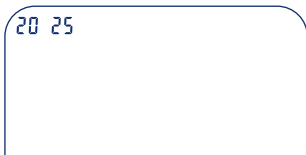

Figure 1
- Once the batteries have been inserted during initial commissioning of the device or after replacing the batteries, the date and time must be set again. The year flashes on the display (Figure 1).